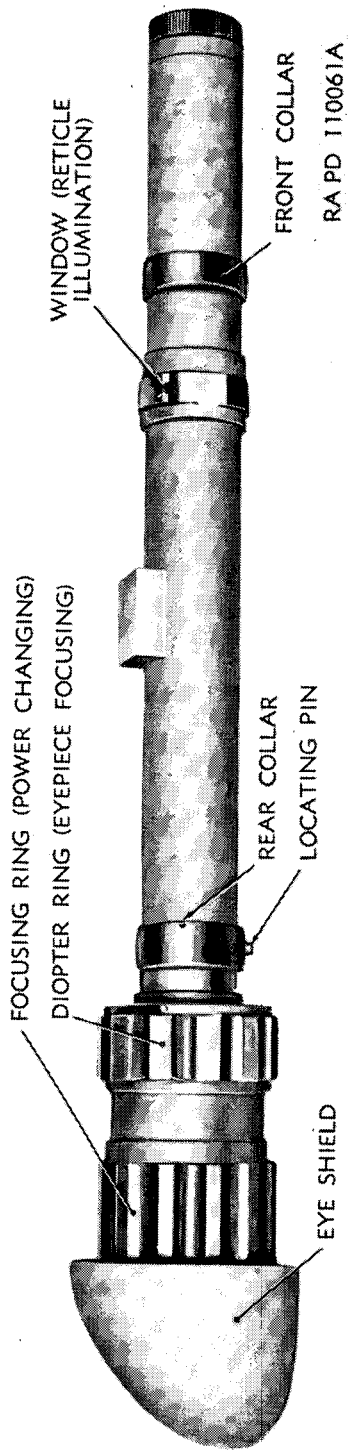

Figure 193. Telescope M88F
c. **TELESCOPE M83F.** This telescope (fig. 193) has the diopter ring, and also the focusing ring for changing the magnification from 4-8 power.